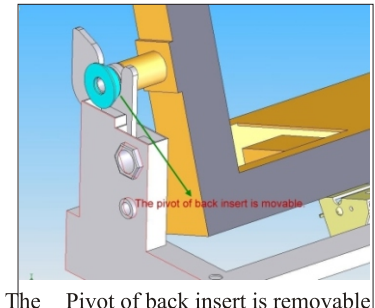

Fig.3
- \* Figure 3: shows correct pivot alignment.